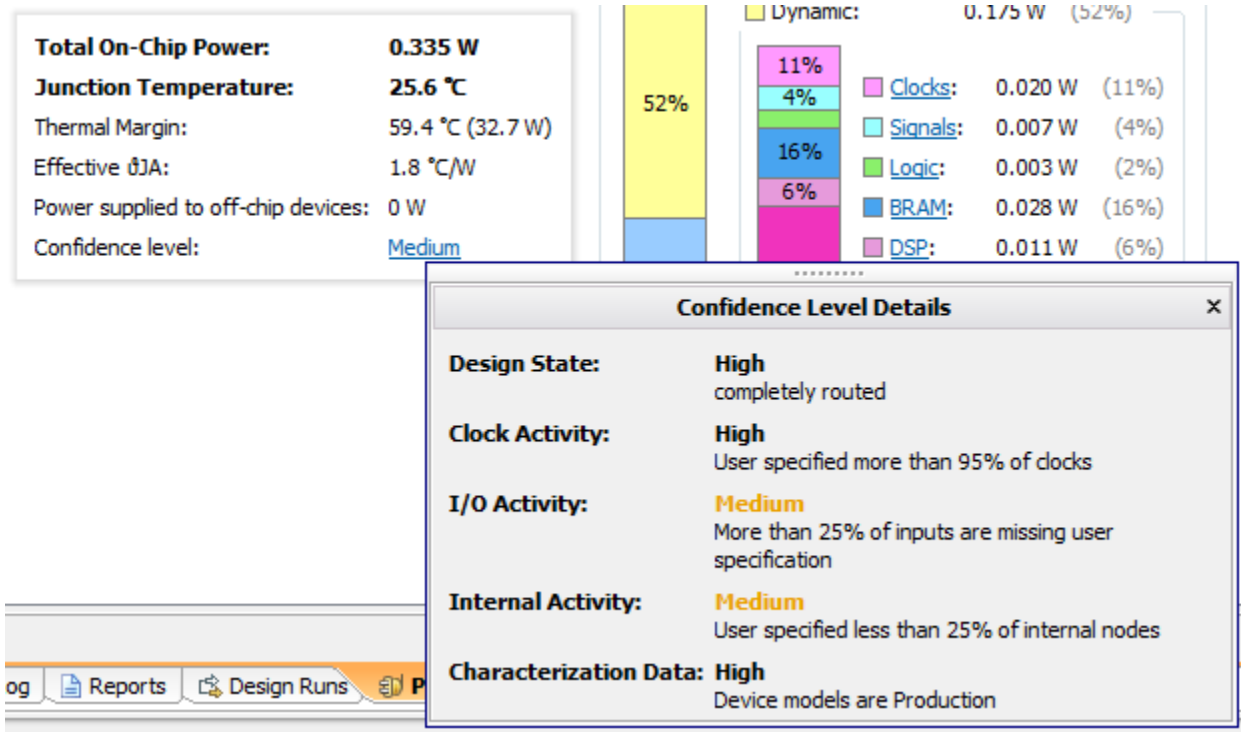

Figure 34: Confidence Level for Vectorless Power Analysis (power\_1)
- In the **Summary** view of the **power\_1** report (the report generated by the vectorless analysis), click on the Confidence level (**Medium** in Figure 34).
- In the **Summary** view of the **power\_2** report (the report generated by the analysis for which you specified a SAIF file as input), click on the Confidence level (**High** in Figure 34).